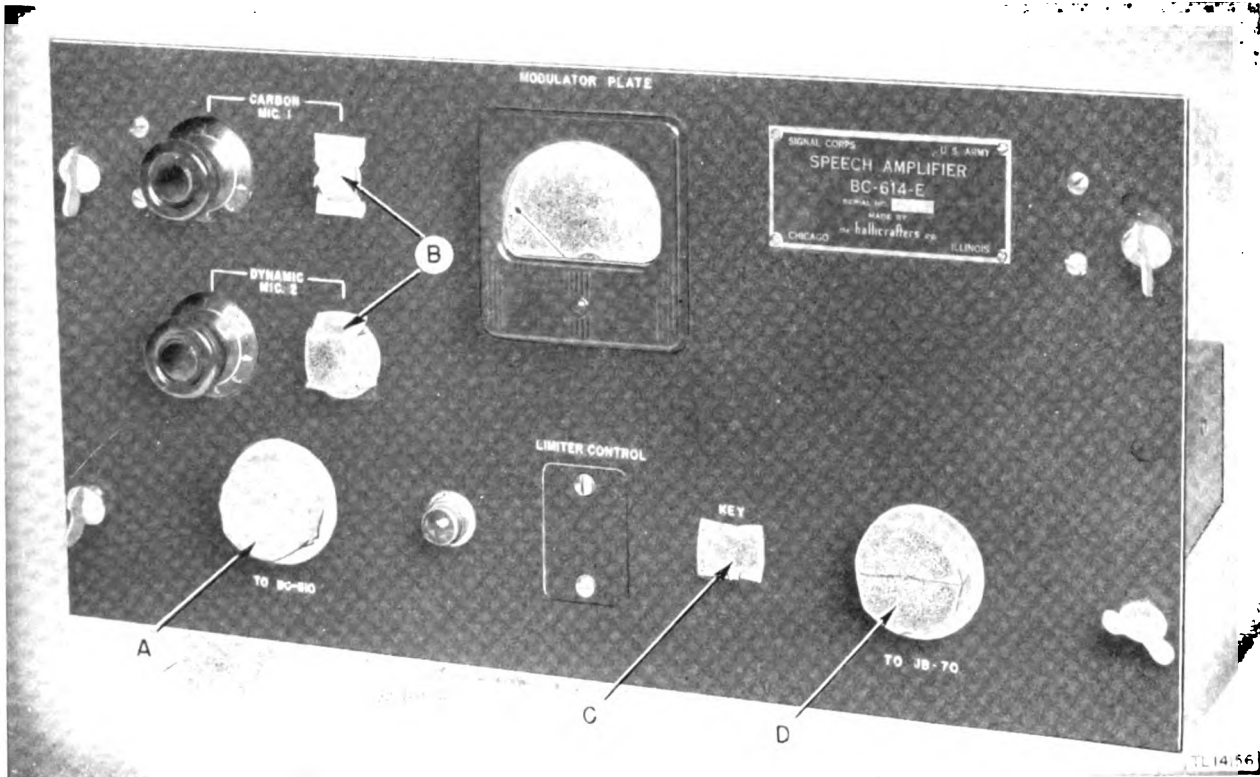

Figure 37. Speech Amplifier BC-614-E—front panel, showing method of masking.
(2) Clean all dirt, dust, rust, fungus, oil, grease, etc., from the equipment to be processed.
c. MASKING. Cover the following components with masking tape as shown in figures 37 and 38.
(1) Socket SO_{103} on front panel, item A, figure 37.
(2) Two microphone jacks on front panel, item B, figure 37.
(3) KEY jack on front panel, item C, figure 37.
(4) Socket SO_{102} on front panel, item D, figure 37.